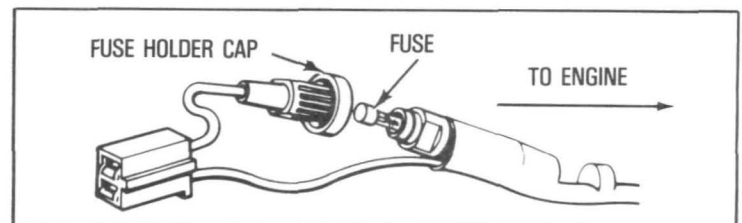

Figure 7
## ⑥ 3 AMP. ALTERNATOR (see Figure 7)